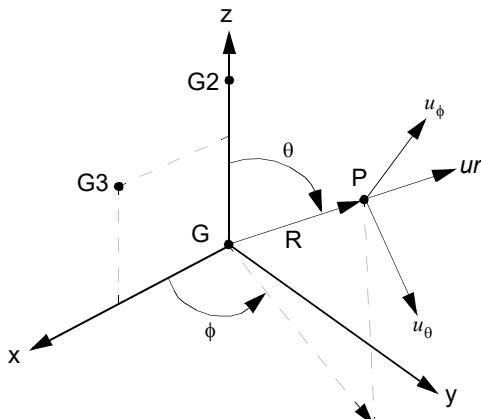

Figure 9-42 CORD1S Definition
4. The location of a grid point (P in Figure 9-42) in this coordinate system is given by (R, θ, ϕ) where θ and ϕ are measured in degrees.